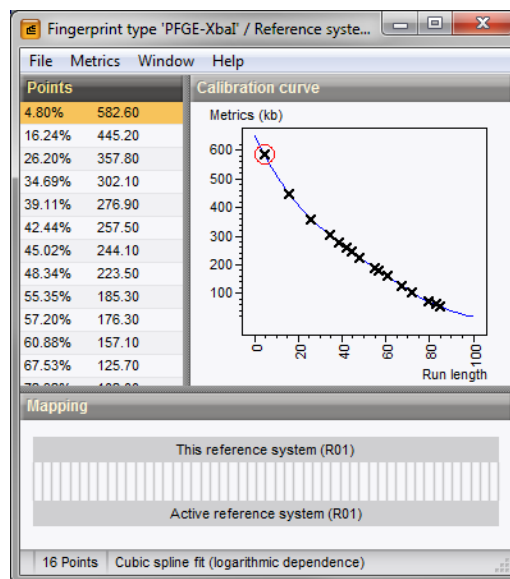

Figure 19: Calibration curve calculated.
12. Designate a metric unit with **Metrics > Assign units...**, enter **kb** and press **<OK>** (see Figure 19).